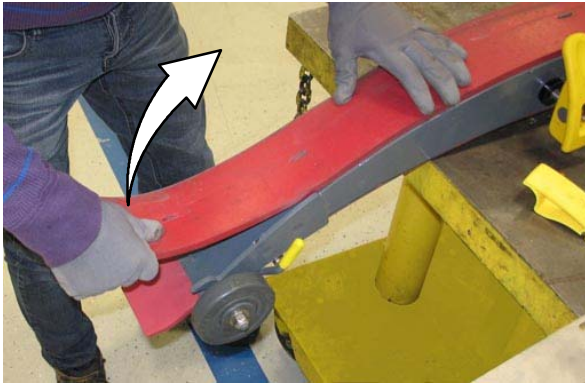

FIG. 7
5. Remove the rear squeegee from the squeegee assembly. Set the rear squeegee aside. (Fig. 7)